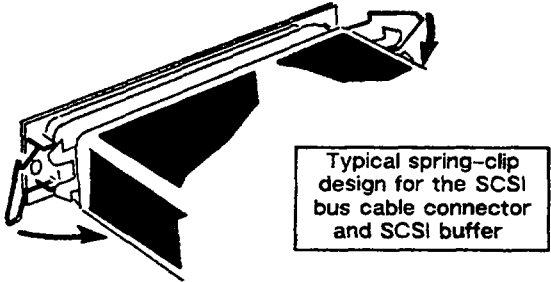

Figure 2-2 Latching the Spring Clips of the SCSI Bus Connector or SCSI Buffer
- 3. Secure the SCSI buffer's connector (if used) and the SCSI bus cable's connector by closing over the two spring clips on each connector, as shown in Figure 2-2.
2. Secure the SCSI buffer's connector (if used) and the SCSI bus cable's connector by closing over the two spring clips on each connector. Refer to Figure 2-2.
- Secure the SCSI buffer's connector (if used) and the SCSI bus cable's connector by closing over the two spring clips on each connector. Refer to Figure 2-2.
- When you have finished cabling the PHUs together, insert the terminator plug into the remaining empty SCSI bus connector of the *last* or only PHU in the daisy chain. For example, if you cabled three PHUs to your computer, the terminator plugs into the empty connector on the third PHU. Secure the terminator plug by closing over the two spring clips. Refer to Figure 2-2.